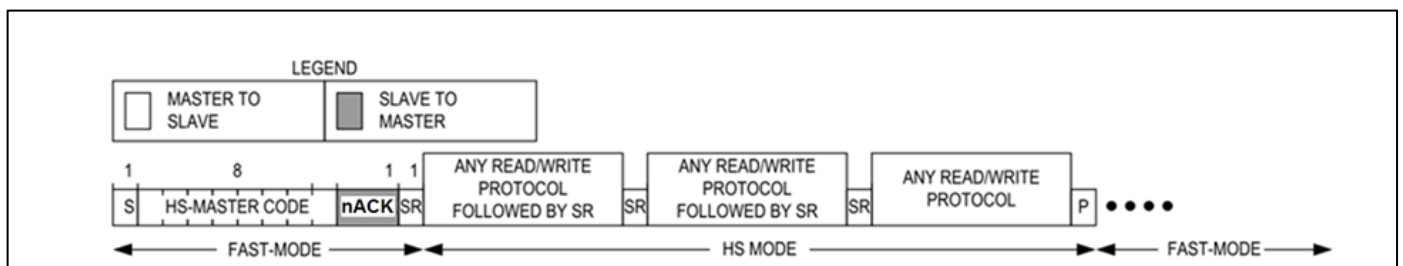

Figure 11 Engaging HS Mode
7. See figure 11 below for more detail of the recommended layout.